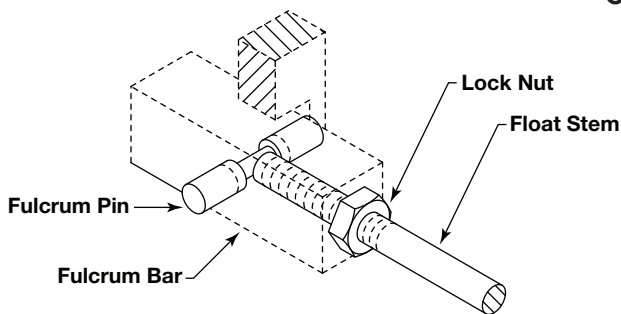

Figure 3
- Before installation, assemble float and stem to sensing unit. See Figure 3.
2. Make sure end of float stem sets completely in groove of fulcrum pin as shown in Figure 3.
- ① All models are factory set at minimum differential unless otherwise specified.
- ② To maintain maximum differential, nozzle length "L" (Fig. 3) must not exceed: 2.38" (60 mm) model T52; 1.19" (30 mm) model T63; 2.50" (64 mm) model T62 threaded; or 3.50" (89 mm) model T62 flanged.
- ③ Dimensions given are approximate and will vary slightly with each unit.
- ④ Consult factory for differentials of models not shown.
- ⑤ Tandem models (T67, T68) are not field adjustable.